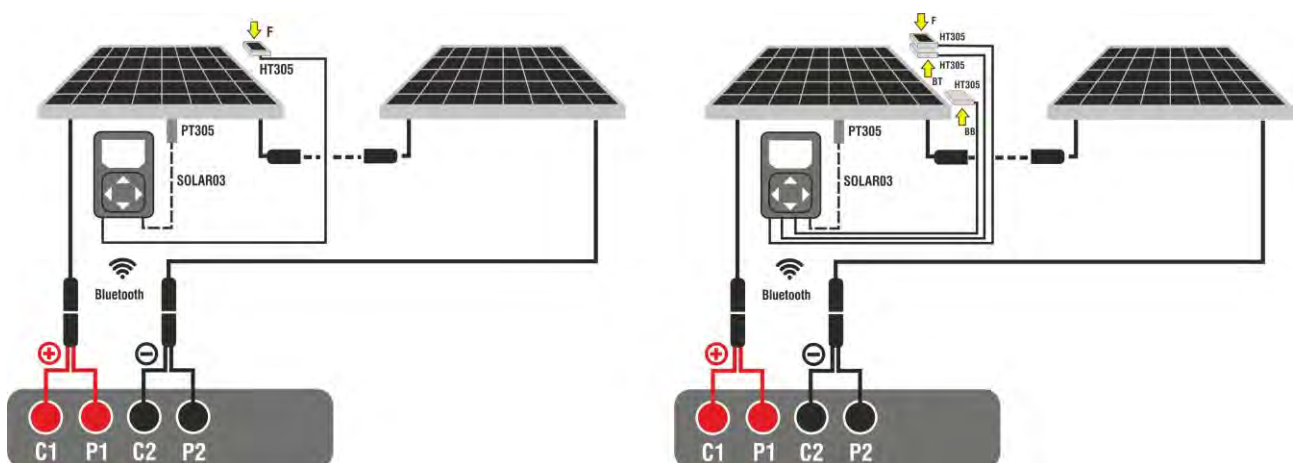

Fig. 33: Connection with remote unit SOLAR03 on Monofacial and Bifacial modules
3. Connect the instrument and the SOLAR03 remote unit to the module/string being tested as shown in Fig. 33. In detail:
- **In case of Bifacial modules** →, position the **three HT305 reference cells** on the front surface of module (**F**), on the top back section (**BT=BackTop**) and on the bottom back section (**BB=BackBottom**) of the module. Connect the front reference cell (F) to input "INP1", BT reference cell to input "INP2", BB reference cell to input "INP3" and **possibly** the temperature probe **PT305** to input "INP4" of the remote unit.
7. Bring the remote unit near the modules and connect the irradiance/temperature probes as shown in Fig. 33. **Since recording has already been activated on remote unit SOLAR03, it is not strictly necessary to maintain the Bluetooth connection anymore.** Maintaining the connection will only allow to immediately obtain the outcome of the test without waiting for the measuring campaign to be completed.